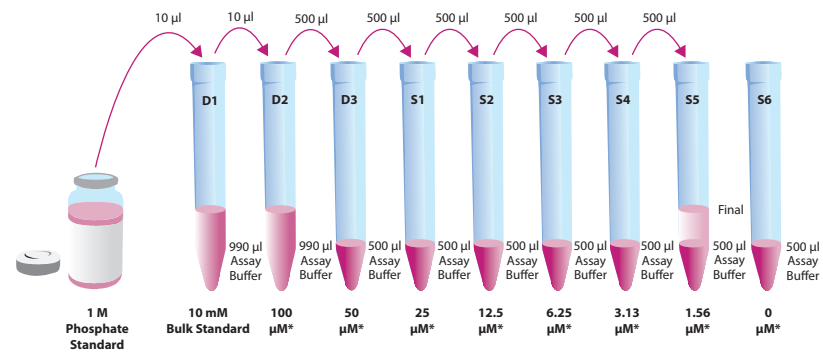

Figure 2. Phosphate standard curve dilutions
1. Prepare the six point standard curve (see Figure 2 on page 8).